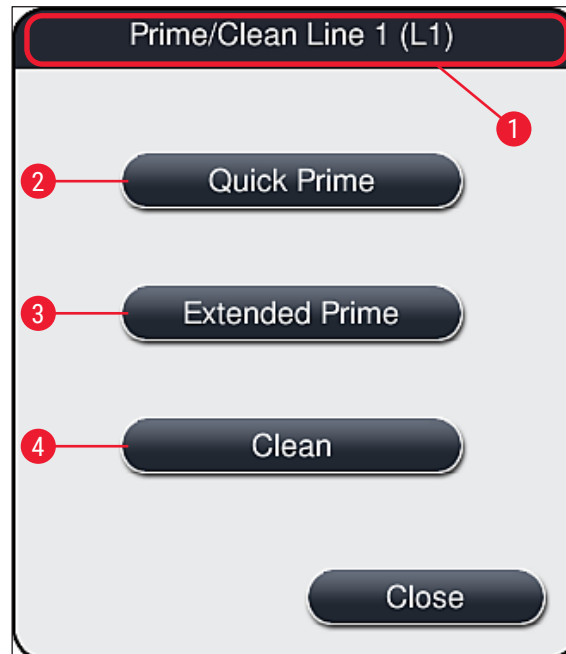

Fig. 99
- ✓ In the following menu (→ Fig. 99), three different priming/cleaning programs are available.